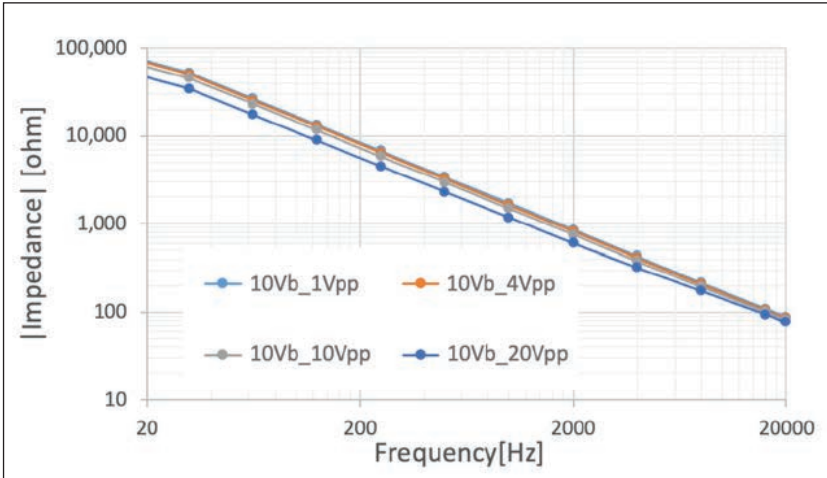
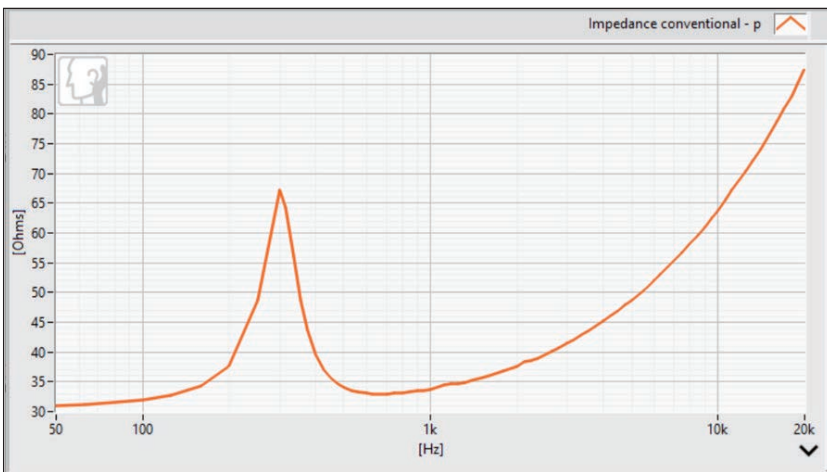

Figure 4: Typical impedance curve for a Piezo-MEMS microspeaker.
Figure 5: Impedance curve of a small conventional speaker (shape for comparison).
**Figure 4** shows the impedance of the MEMS speaker. You can see here that it's a very different shape from a conventional loudspeaker impedance (**Figure 5**). Although the values are much higher, it's very linear, which makes it easy to compensate for when designing products.